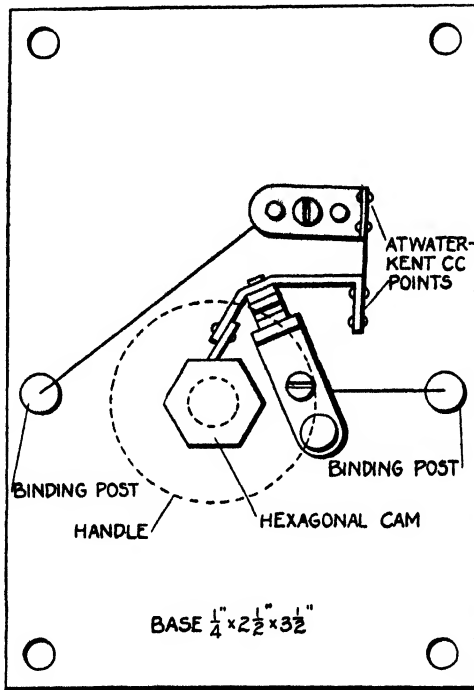

Fig. 46. Breaker-Point Test Set
*Single-Break Test.* A simple cheap breaker may be made as in Fig. 46. A piece of  $\frac{1}{4}$ -inch red fibre  $2\frac{1}{2}'' \times 3\frac{1}{2}''$  forms the base; Atwater-Kent type CC points are used for contacts; the hexagon cam is made from a  $\frac{3}{8}$ -inch hexagon iron rod turned down to a shoulder  $\frac{1}{4}$  inch in diameter and projects through the base, with a fiber handle about an inch in diameter attached. A condenser is connected across the points, and the whole assembly mounted on the test board. To test with this apparatus, the coil is connected as in Fig. 47; the battery coil primary and breaker are connected in series; the coil secondary is connected to the gap, and the spark is noted. As this type of breaker has no resistance to speak of and is operated by hand, the coil has plenty of time to saturate its core, the spark produced being uniform.